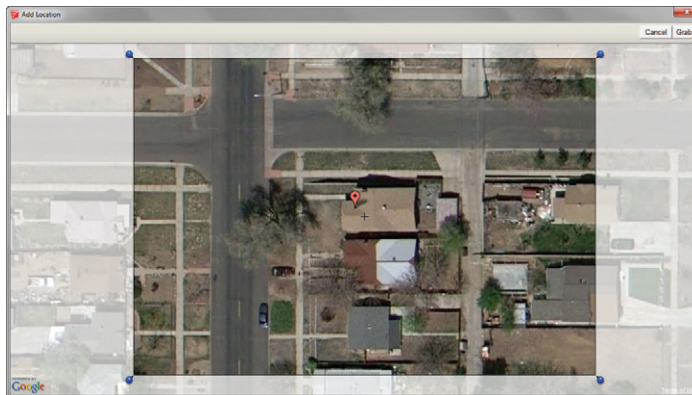

Figure 17.2 Grab plenty of context around the site—just in case!
4. Use the pins to position the selection area over the entire property (Figure 17.2).